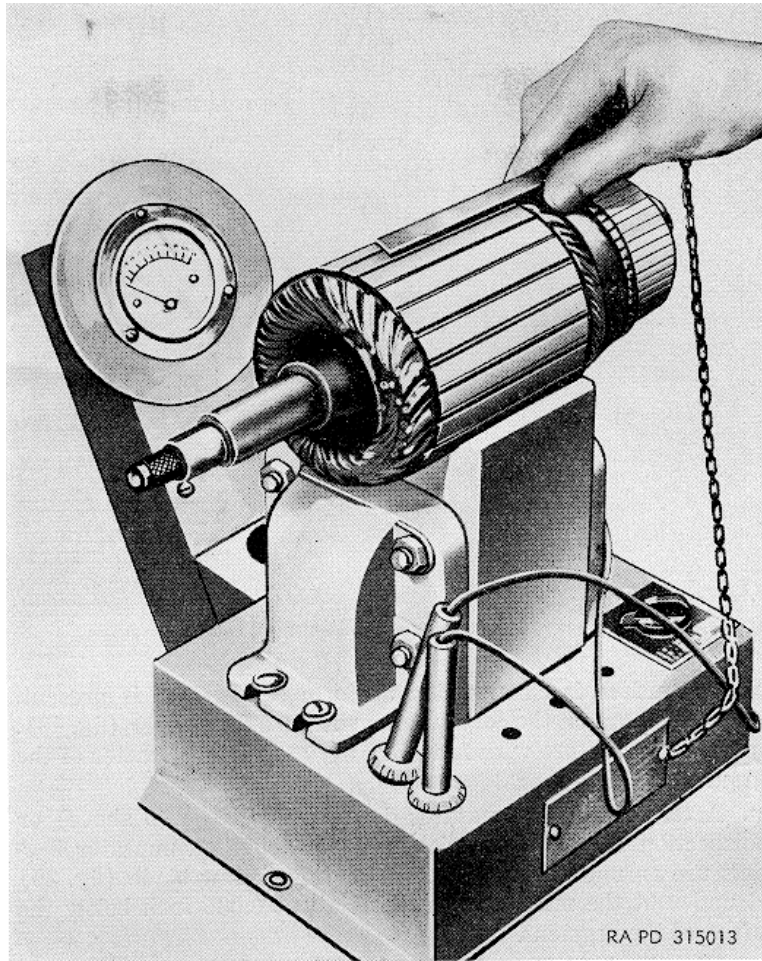

Figure 15. Method of testing armature for shorts using growler.
k. Test armature core for short circuits (fig. 15). Hold the growler thin steel strip directly above the core. Rotate armature slowly through a complete revolution. If a short is present, steel strip will be attracted to the core and will chatter against the armature. Turn switch off before removing armature. Replace armature with fan if it is shorted.